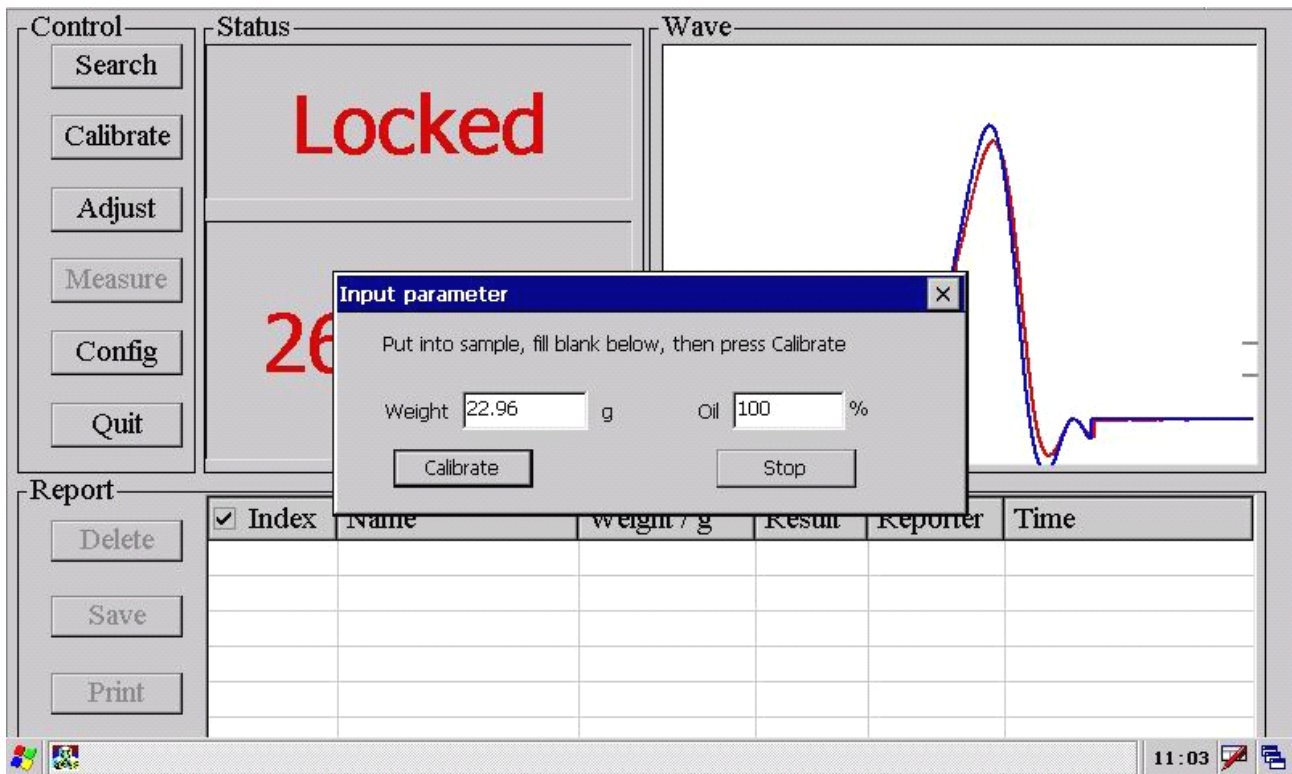

Figure 7 1st sample parameters input
① Click button Calibrate. A pop window requires entering weight and oil content of the sample;
② The 1st sample we put into magnet is pure oil. Input the corresponding information of it, so weight is the pure oil weight, oil content is 100%. After finish filling the form, click button calibrate in the pop window as shown in figure 7;